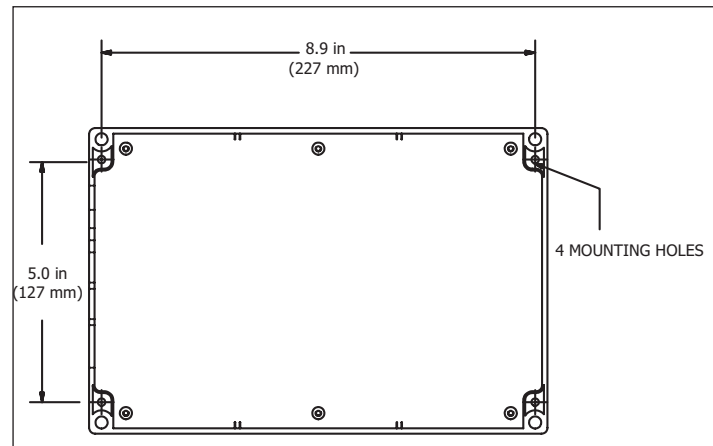

Fig. 2
The ADC100 control may be mounted directly to a wall. To mount, remove the cover and locate the (4) mounting holes. Using the hole-pattern shown below, mount the control using #6 screws. See Fig. 2. Once it is attached, wire the unit in accordance with Chapter 4.